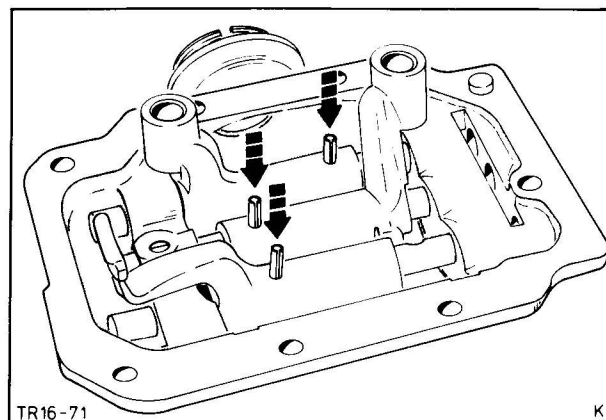

Fig. 122. Secure selector rails and fork carriers with locking pins
12. Secure all the selector rails and fork carriers with locking pins, Fig. 122.